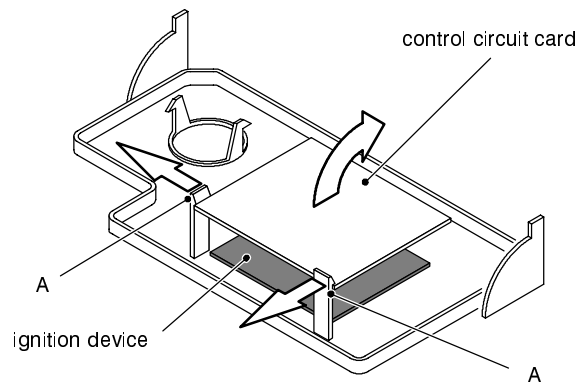

fig. 47
- 2 Delicately flex the hooks A in the directions indicated; unhook the control circuit and overturn it without disconnecting it from the wiring (fig. 47);